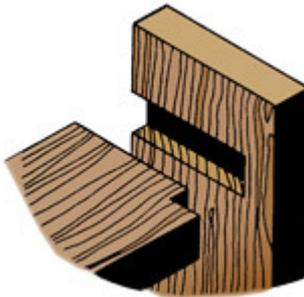

FIG. 17 - The stopped dado joint is a modified version of the regular dado joint.
- The stopped dado joint is a modified version of the regular dado joint (Fig. 17).